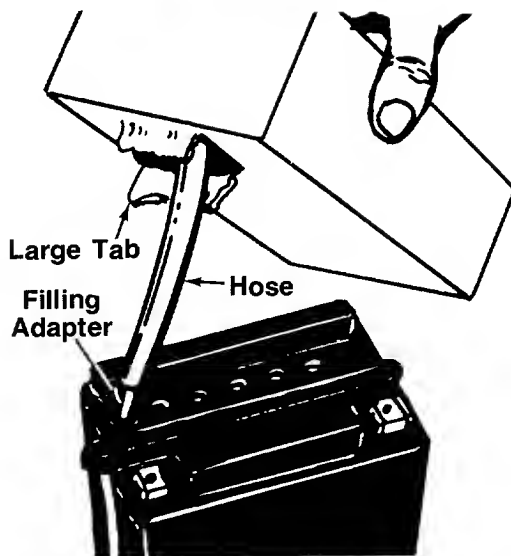

FIGURE 14.
6. Pull out hose from package and hold upright. Squeeze hose forcing all acid back into package. Cut off tip of hose and insert filling adapter. See figure 14.
7. Fill each cell to upper level marked on front of battery. Replace fill caps on battery. See figure 14.